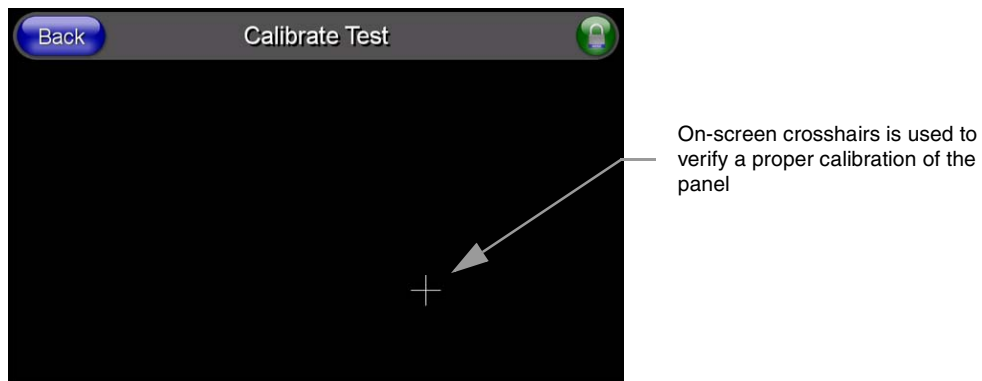

FIG. 32 Calibration Test page
1. Press and hold down the on-screen **Calibration** button for 6 seconds to enter the Calibration Test page (FIG. 32).